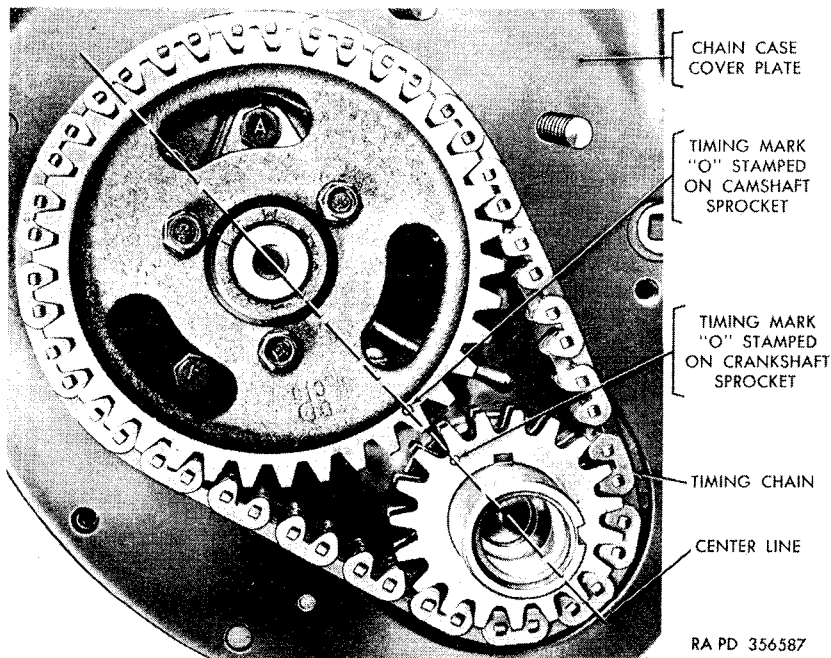

Figure 88. Timing chain and sprocket installation.
- (2) Install the correct adapter in the camshaft front bearing and start the front bearing in its bore.
- (3) Insert the installer shaft through all three adapters and install a horseshoe collar forward to the front adapter.
- (4) Drive the camshaft front bearing into place with the sliding hammer of the tool, making sure that the oil holes are in alignment.
- (5) Remove the installer shaft but leave the front and rear adapters in the bores to guide the shaft when installing camshaft intermediate bearing.
- (6) Place the adapter in the camshaft intermediate bearing and start the bearing in its bore. Install the horseshoe collar forward of the adapter and drive the bearing into place.
- (7) Remove the installer shaft and number three adapter.
- (8) Place camshaft rear bearing in the adapter and drive it into place with the same procedure used on the other bearings.
*e. Install Camshaft Sprocket and Timing Chain (fig. 88).* Turn the crankshaft so that the mark "O" on the face of the crankshaft sprocket is directly in line with the crankshaft and camshaft centers. Place the camshaft sprocket on its hub and install two cap screws tem-